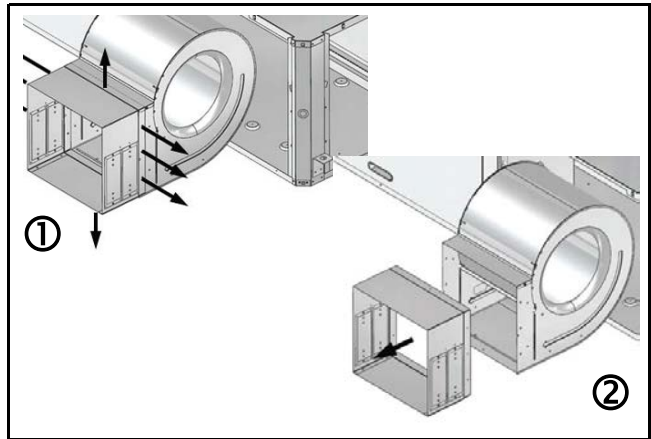

Fig. 18
9. Remove the blower collar by removing the eight screws securing it and discard. (See Fig. 18.)